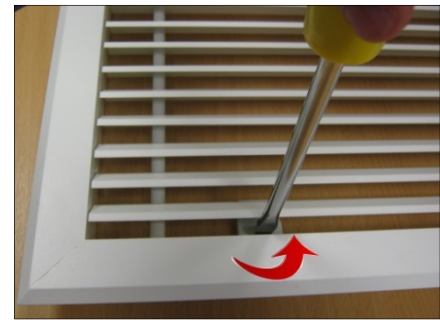

Fig 6
Step 1 Open the hinged inlet grille using a flat bladed screwdriver to release the quarter turn fasteners (see Fig 6). There are two fasteners on the PHV1000R unit and three fasteners on PHV1500R and PHV2000R units. Before lifting the grille frame into position, remove four (six on PHV1500R/PHV2000R) M6 bolts fitted on the inside edge of air curtain.